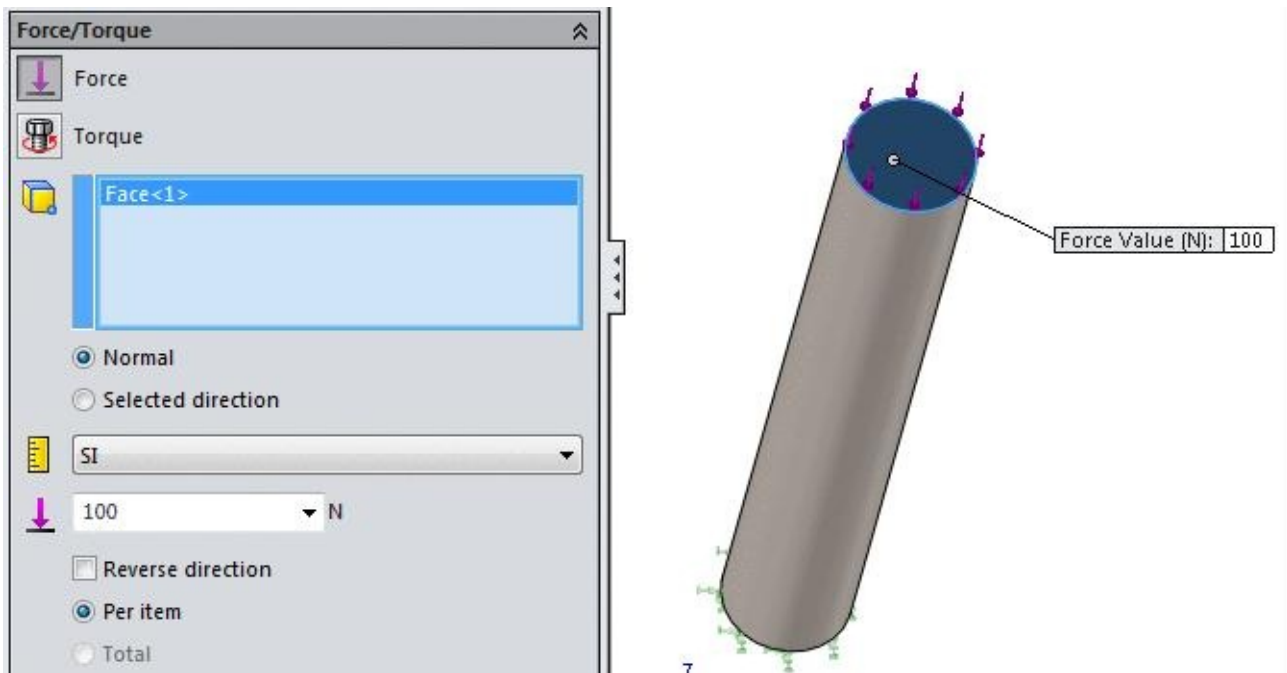

Figure-3. Force to be applied
- Select the face as shown in Figure-3. and specify the force value as 100 N.